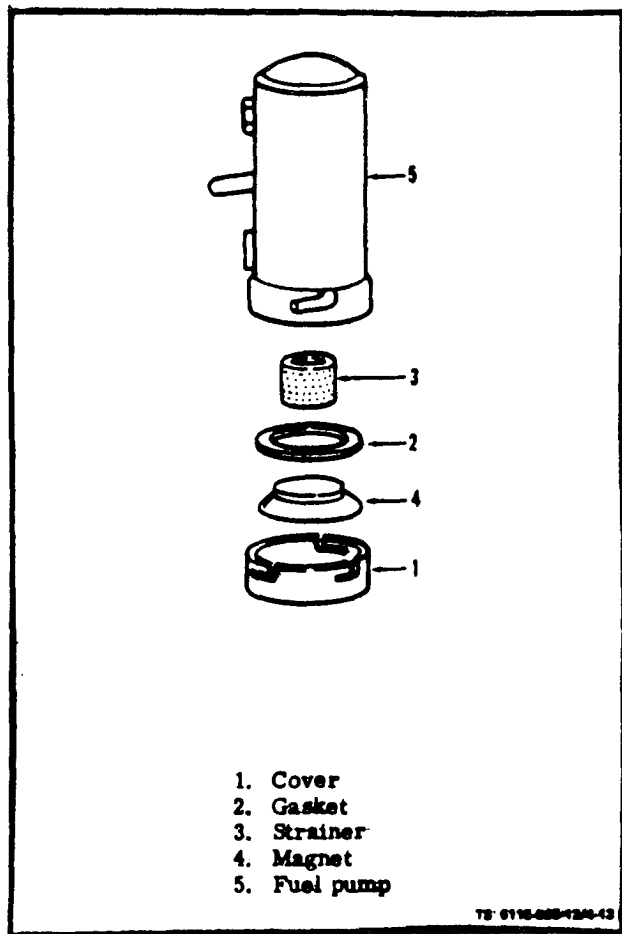

Figure 4-13. Fuel Pump
b. Service (see figure 4-13). On ASK equipped generators, remove fuel access door. Remove cover (1), gasket (2) and strainer (3). Be careful not to lose magnet (4). Every 500 operating hours replace gasket (2) and strainer (3) in both main pumps and auxiliary pump. Ensure that chamfered surface of magnet (4) is up prior to installation of new strainer and gasket.